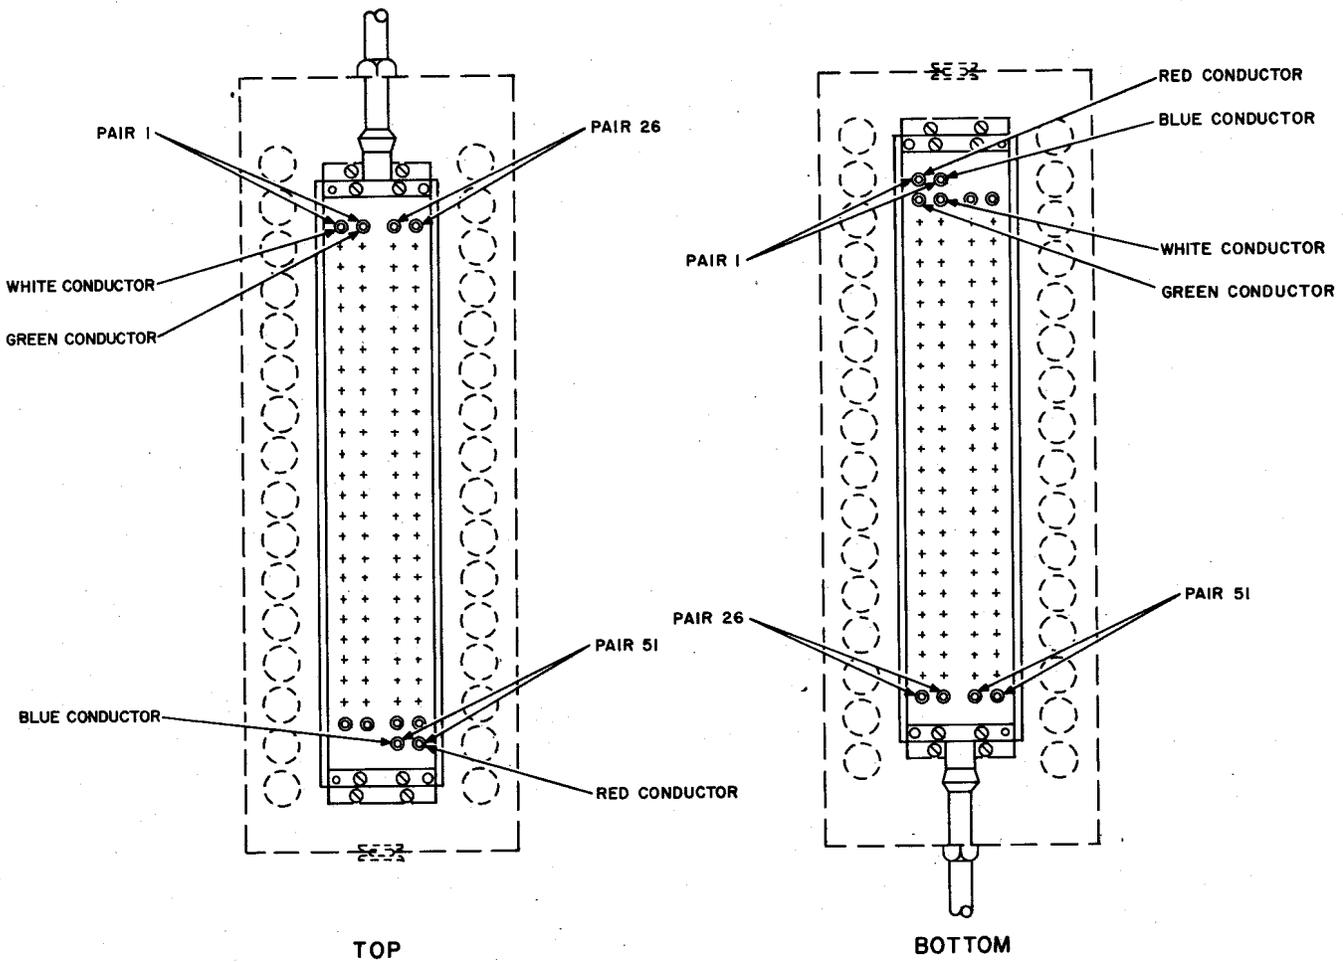

Fig. 6—Superseded 53A2-51 Cable Terminal
6.01 The 53A2-51 cable terminal (MD) is shown in Fig. 6.